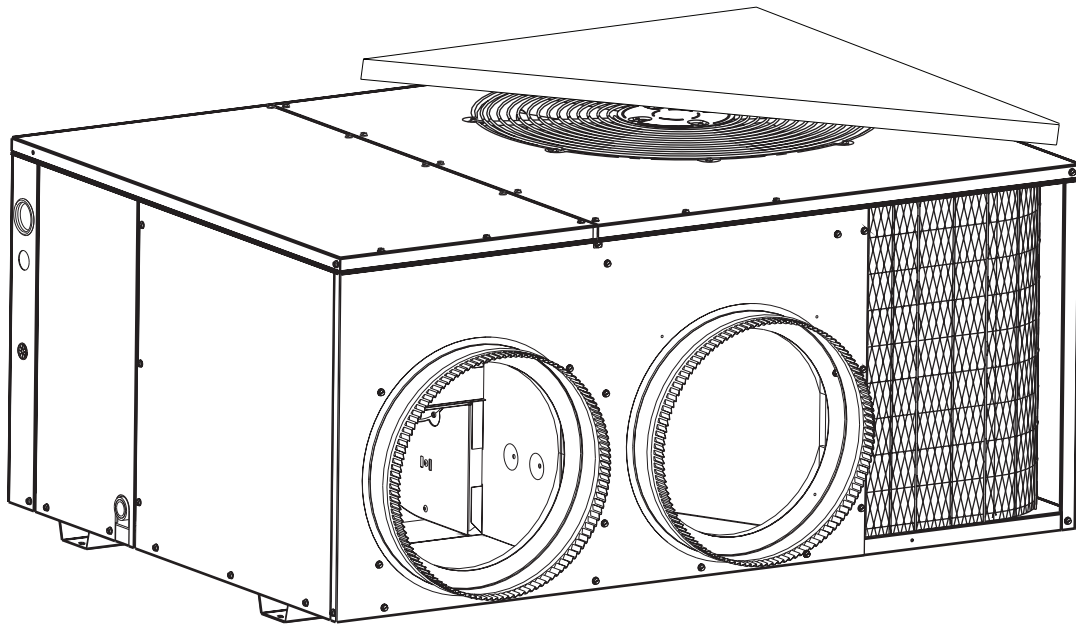

Figure 9. Q94RD With Fan Discharge Blocked Off
1. Block off the discharge of the outdoor fan. **NOTE:** One half of the unit should be covered corner to corner as shown in Figure 9.
3. Measure the outdoor dry bulb temperature (F) and indoor wet bulb temperature (F).